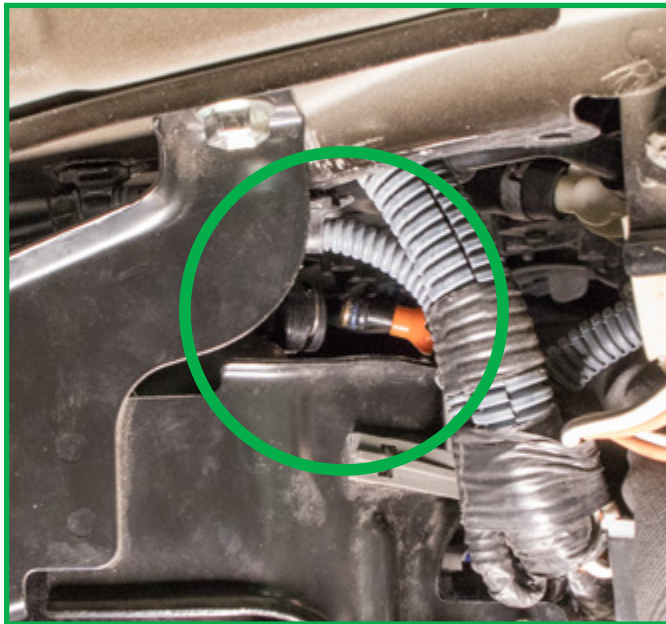

FIGURE 18
3. Reconnect the air line to the dryer. (Figure 18)